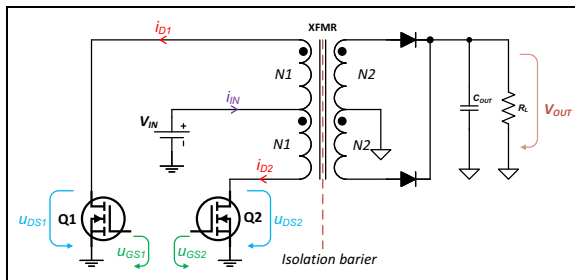
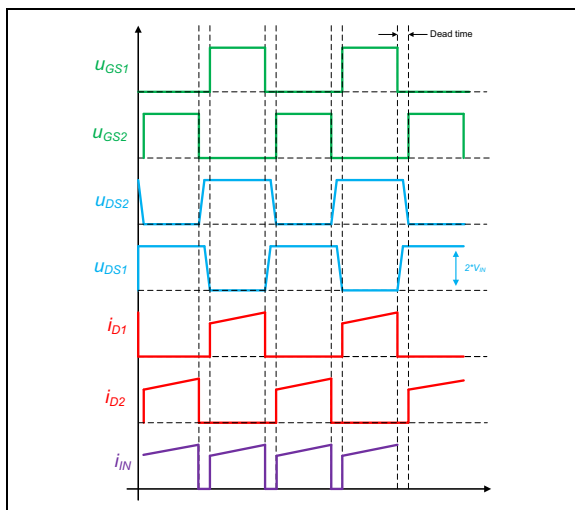

FIGURE 5-1: Typical Power Train of the Push-Pull Converter.
FIGURE 5-2: Typical Waveforms of the Push-Pull Converter.
The push-pull converter belongs to the family of forward isolated converters, and the typical power train of this converter is presented in Figure 5-1. A center tap transformer is driven by two power switches, Q1 and Q2. The driving signals of Q1 and Q2 are 180° out-of-phase and have a proper dead time inserted to prevent the shoot-through. The secondary side includes a full-wave, current doubler rectifier and a capacitor to eliminate the high-frequency components and sustain the output voltage during the dead-time period. The typical waveforms for the voltages and currents are presented in Figure 5-2. The transfer of the energy from the primary side to the secondary side is done in both switching cycles unlike in the case of Fly-back converter. This topology has multiple advantages, like simplicity (has two low-side power switches and does not require any floating driver), a good transformer core utilization that leads to an increase power density, good efficiency, large conversion ratio (M) and low current ripple for the primary and secondary sides. The disadvantages of this topology include the possibility to saturate the core of the transformer due to the flux imbalance; power switches must be rated for a voltage that is double the input voltage and an increase of the transformer cost due to the presence of the center tap.